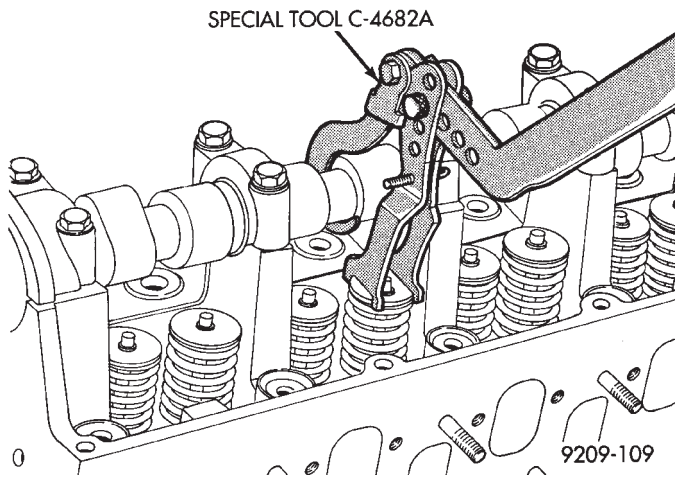

Fig. 12 Removing and Installing Valve Spring
- (1) Remove valve cover.
- (2) For each rocker arm, rotate cam until base circle is in contact with rocker arm. Depress valve spring using Special Tool C-4682 (Fig. 12) and slide rocker arm out. Keep rocker arms in order for reassembly.
- (3) Remove hydraulic lash adjuster.
- (1) Install hydraulic lash adjusters making sure that adjusters are at least partially full of oil. This is indicated by little or no plunger travel when the lash adjuster is depressed.
- (2) Rotate cam until base circle is in contact position with rocker arm. Depress valve spring with Special Tool C-4682 (Fig. 12) and slide rocker arm in place. Keep rockers in order. It is possible for the valve spring retainer locks to become dislocated when depressing the valve spring. **Check and make sure the locks are in their proper location.**
(1) Remove rocker arms as previously outlined in this section.
(2) Rotate crankshaft until piston is at TDC on compression.
(3) With air hose attached to adapter tool installed in spark plug hole, apply 90-120 psi air pressure.
(4) Using Special Tool C-4682 (Fig. 12) compress valve springs and remove valve locks.
(5) Remove valve spring.
(6) Remove valve stem seal by gently prying side-to-side with a screwdriver blade. Once dislodged from guide post, seal may be easily removed.